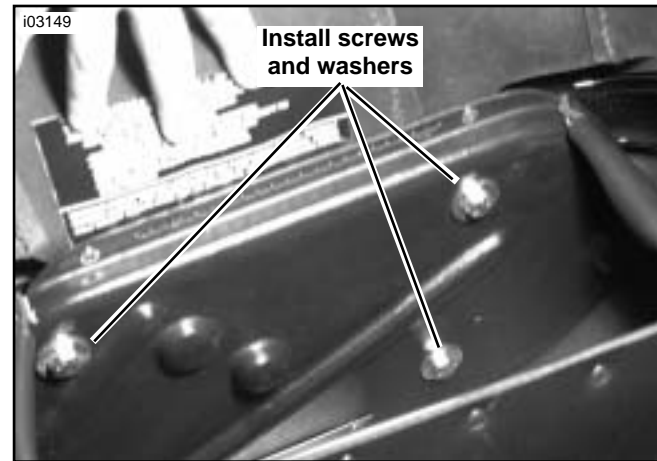

Figure 20. Fasten Right Saddlebag to the Support Plate
4. See Figure 20. Repeat steps 1 through 3 for the right-side saddlebag. The right-side saddlebag has only three mounting locations, all on the vertical portion of the saddlebag plastic back. Finger-tighten all three cap screws first, then snug all three. Torque the screws, being careful not to deform the plastic, to 15 ft-lbs (20.3 Nm) maximum.